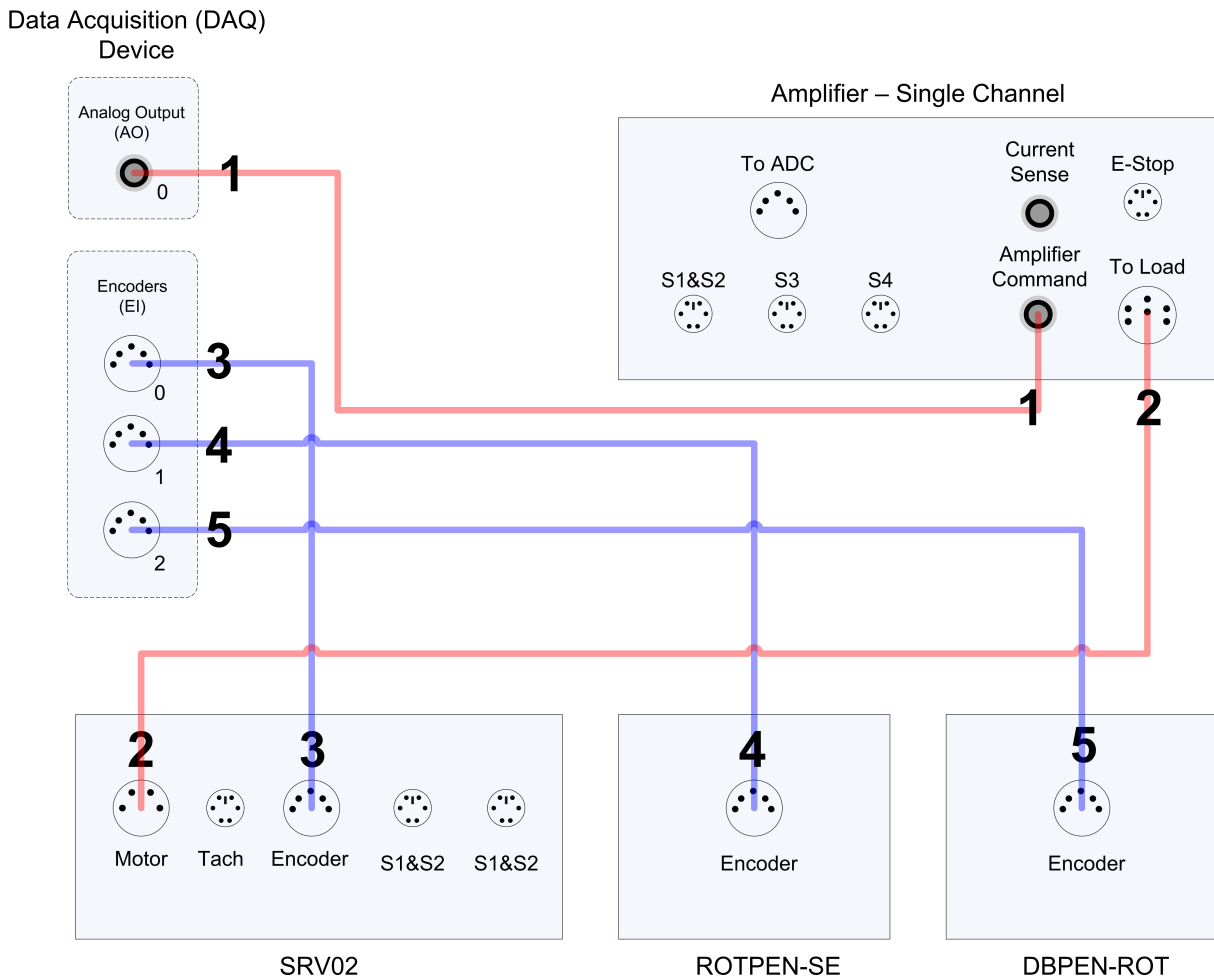

Figure 5.1: SRV02 and DBPEN-ROT Module Wiring Diagram
The connections are given in Table 5.2 and illustrated in Figure 5.1. The detailed wiring procedure is given below.
3. Connect one of the connectors on the 2x RCA to 2x RCA cable from the *Analog Output Channel #0* on the data acquisition (DAQ) device to the *Amplifier Command* Connector on the Quanser amplifier. See cable #1 shown in Figure 5.1. This carries the attenuated motor voltage control signal,  $V_m/K_a$ , where  $K_a$  is the amplifier gain.
4. Connect the 4-pin-stereo-DIN to 6-pin-stereo-DIN from *To Load* on the amplifier to the *Motor* connector on the SRV02. See connection #2 shown in Figure 5.1. The cable transmits the amplified voltage that is applied to the SRV02 motor and is denoted  $V_m$ .
5. Connect the 5-pin-stereo-DIN to 5-pin-stereo-DIN cable from the *Encoder* connector on the SRV02 panel to *Encoder Input #0* on the data acquisition (DAQ) device, as depicted by connection #3 in Figure 5.1. This carries the load shaft angle measurement and is denoted by the variable  $\theta_1$ .
6. Connect the encoder connector on the ROTPEN-SE directly to *Encoder Input Channel #1* on the data acquisition (DAQ) device, as depicted by connection #4 in Figure 5.1. It carries the measured short link pendulum angle and is denoted by variable  $\alpha$ .
7. Connect the encoder connector on the DBPEN-ROT directly to *Encoder Input Channel #2* on the data acquisition (DAQ) device, as depicted by connection #5 in Figure 5.1. It carries the measured medium link pendulum angle and is denoted by variable  $\gamma$ .